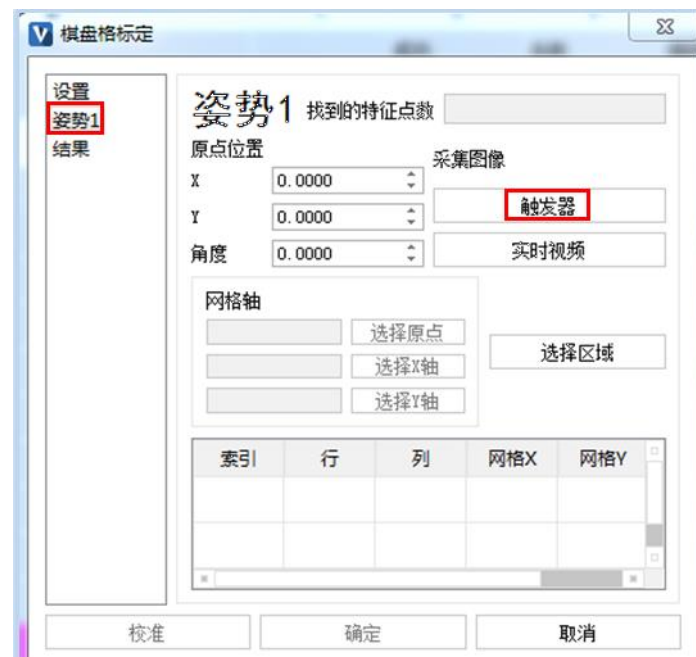

Figure 5-21 Chessboard calibration interface
Step9. Double-click [Calib Cell], and the [Chessboard Calibration] interface will appear, as shown in Figure 5-21.